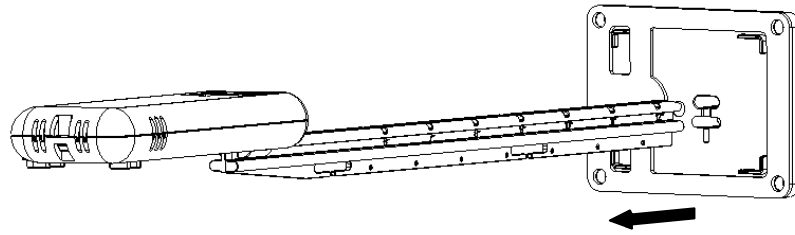

Fig. 3. Rod insertion into the flange.
4. Mount the flange onto the rod as shown in Fig. 3 on page 3.